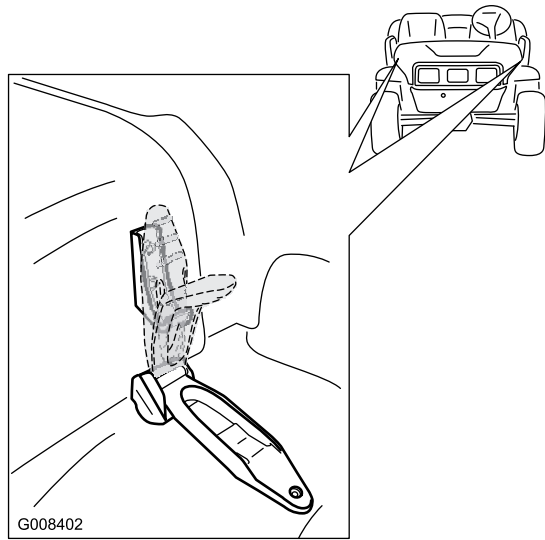

Figure 27
1. Lift up the handle of the rubber latches at each side of the hood (Figure 27).
2. Secure the hood by aligning the rubber latches onto the latch anchors at each side of the hood (Figure 27).